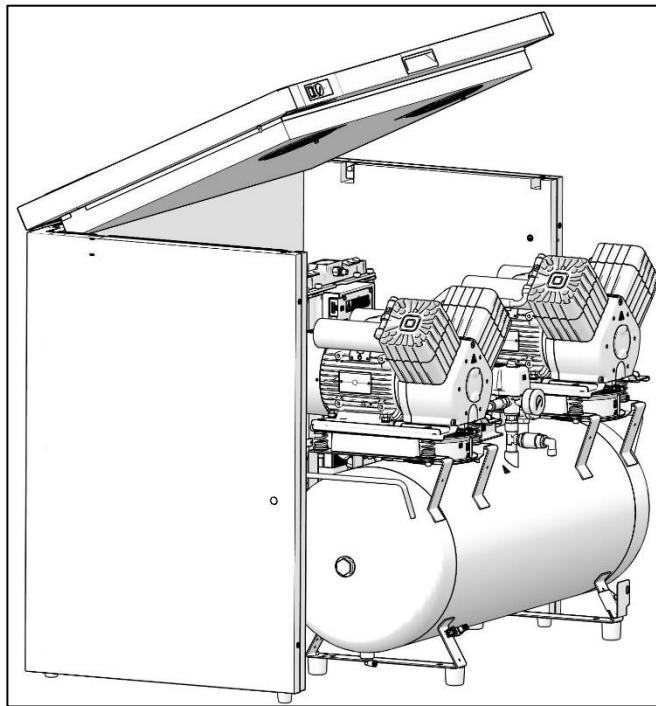

Fig. 20: Positioning the compressor for electrical connections
- Position the compressor at such a distance from the cabinet so the WINSTA connector can make the electrical connection between the compressor and the cabinet (Fig. 13, Fig. 20).